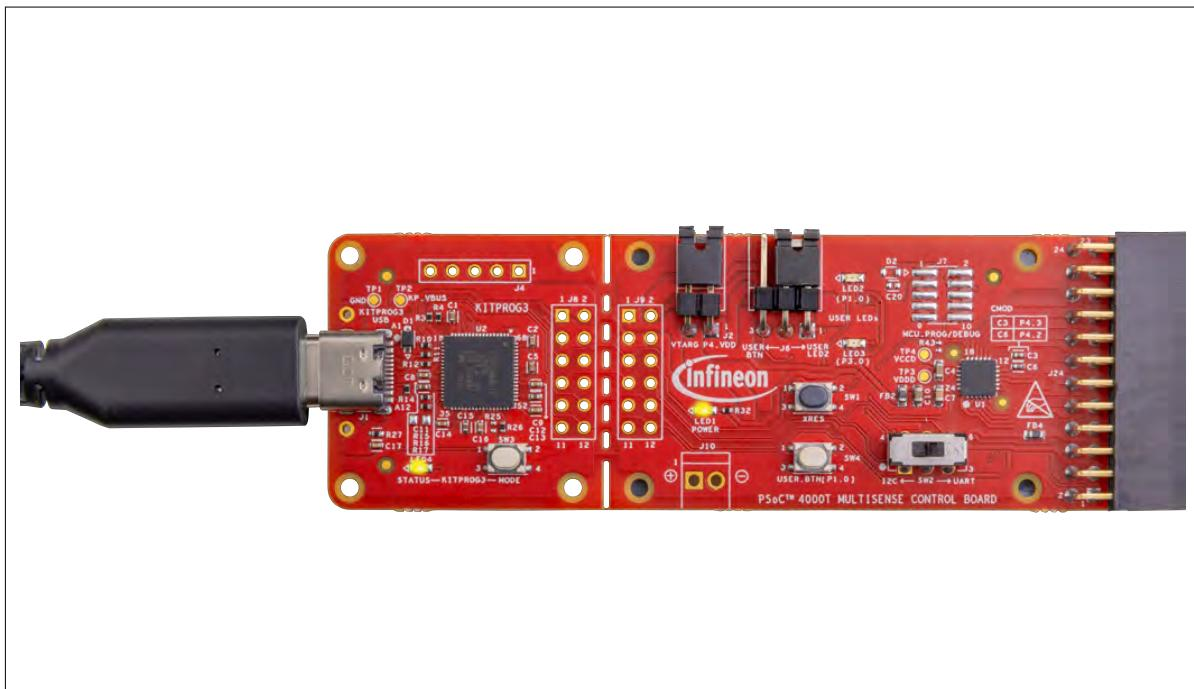

Figure 10 **Connect the USB cable to the USB connector on the board**
1. Connect the board to the PC using the USB cable through the KitProg3 USB connector, as shown in Figure 10